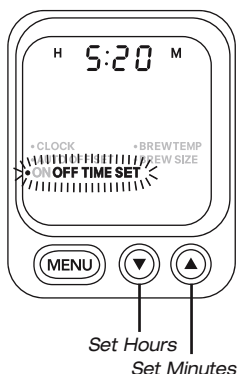

figure 22
- c. After setting the desired ON TIME, press the Menu button once to save your selected ON TIME. You will now be in the OFF TIME SET MODE (see figure 22).